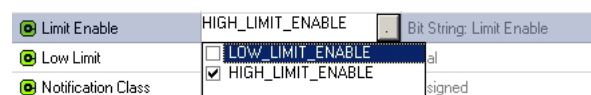

Fig. 4-20: Enabling and disabling the properties
24. Enable the entry "HIGH_LIMIT_ENABLE" under **Limit Enable** and disable the entry "LOW_LIMIT_ALARM". With this action, only upper limits are allowed (see Fig. 4-20).